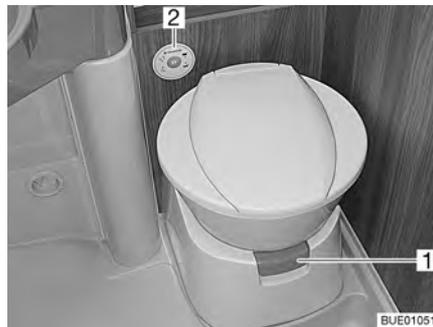
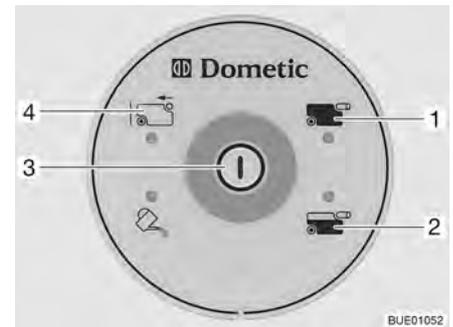

Fig. 243 Toilet bowl with control and operating unit
Fig. 244 Control and operating unit toilet
Let some water run into the toilet bowl before using the toilet. In order to do so press the flush button (Fig. 244,3) on the control and operating unit (Fig. 243,2).
- Before flushing open the sliding trap of the toilet. For this pull out the slide lever (Fig. 243,1).
- For flushing, press the flush button (Fig. 244,3).
The indicator lamp (Fig. 244,2) goes on whenever the sewage tank is filled up to 3/4.
The indicator lamp (Fig. 244,1) goes on whenever the sewage tank has to be emptied.
- Push the slide lever (Fig. 243,1) in. The sliding trap is closed. To empty, the sliding trap of the toilet **must** be closed.
- Tilt the sewage tank slightly and remove fully. The display "Sewage tank removed" (Fig. 244,4) lights up on the control and operating unit.